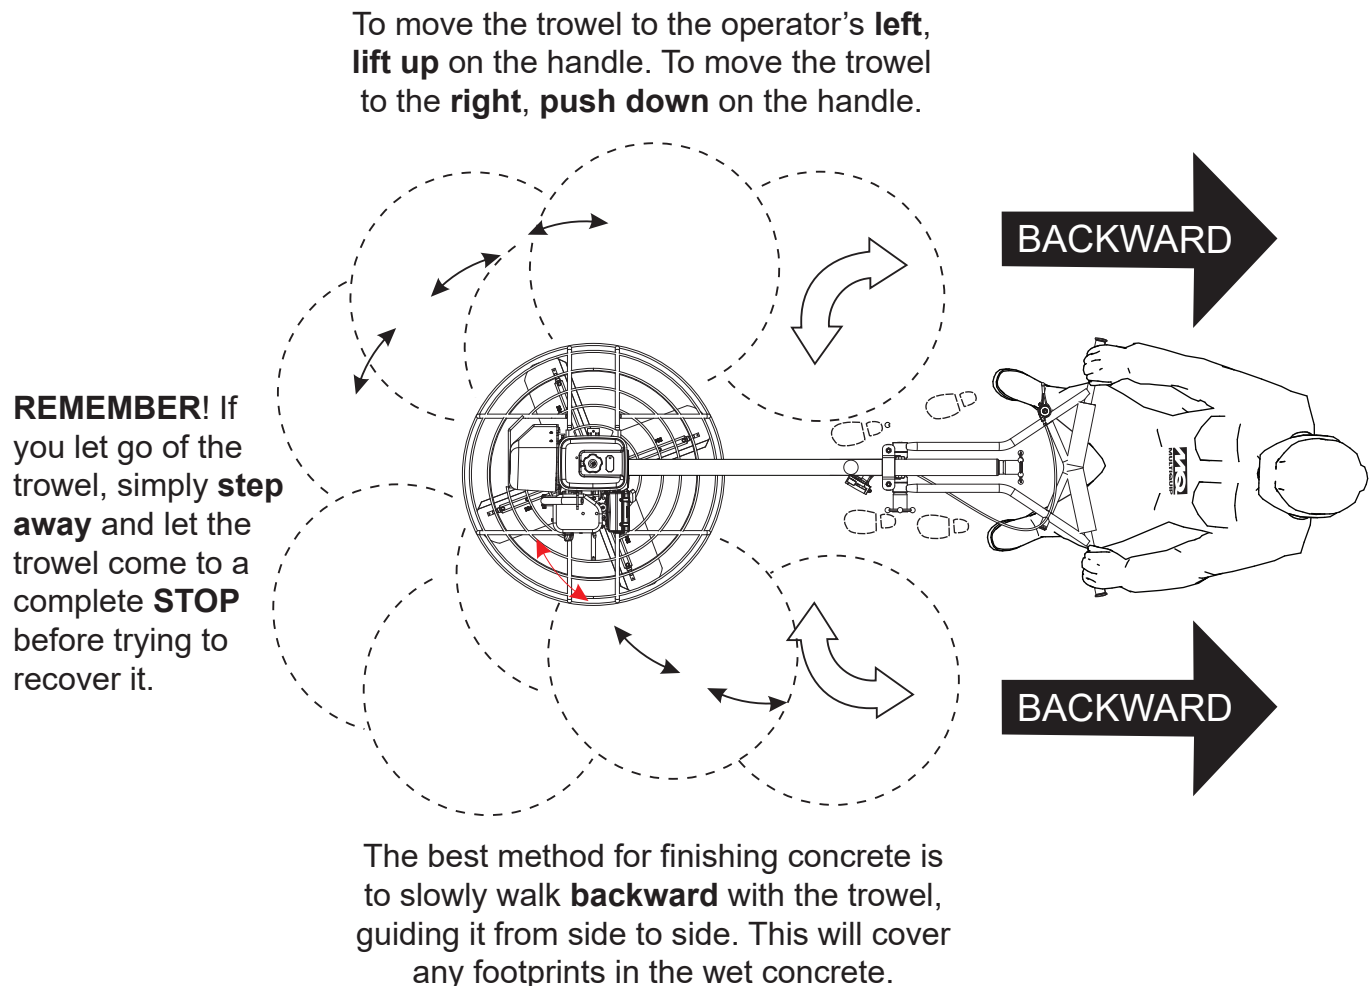

Figure 39. Maneuvering the Trowel
2. Figure 39 illustrates a typical walk-behind trowel application. Practice maneuvering the trowel. The trick is to let the trowel do the work.